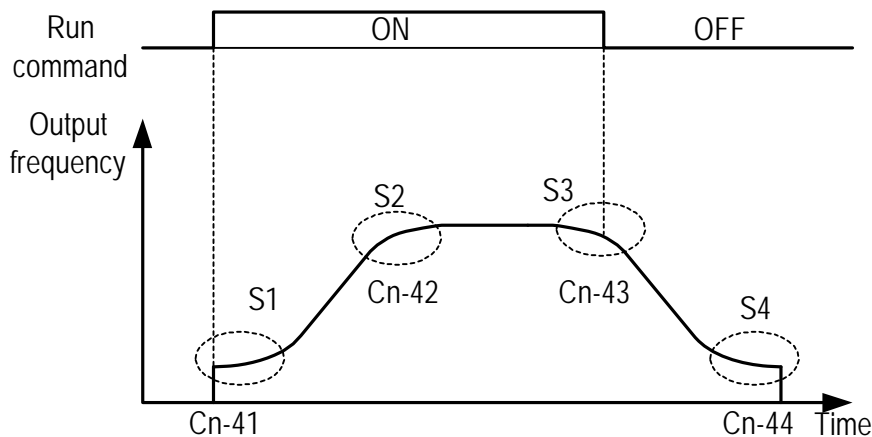

Fig. 26 S curve
(33) Low Voltage Alarm Detection Level (Cn-39)
(34) Slip Compensation Primary Delay Time (Cn-40)
(35) S-curve Characteristic Time at Acceleration Start (Cn-41)
(36) S-curve Characteristic Time at Acceleration End (Cn-42)
(37) S-curve Characteristic Time at Deceleration Start (Cn-43)
(38) S-curve Characteristic Time at Deceleration End (Cn-44)
- Using the S-curve characteristic function for acceleration and deceleration can reduce shock to the machinery when stopping and starting. With the inverter, S-curve characteristic time can be set respectively for beginning acceleration, ending acceleration, beginning deceleration and ending deceleration. The relation between these parameters is shown in Fig. 26.